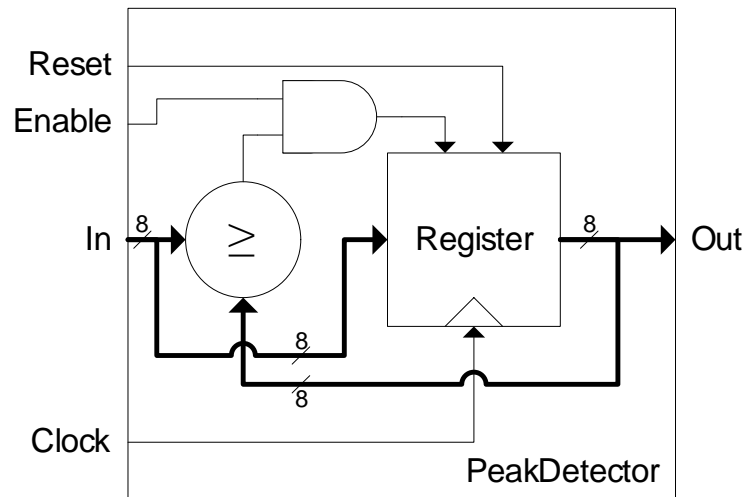

Figure 4: The Peak Detector
5. In the text editor of your choice (we recommend notepad) create a file called **PeakDetector.v** in which you will define a single module called `PeakDetector`. Refer to Figure 4 for more information.